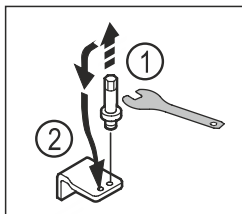

Fig. 18
- ▶ Unscrew the bolt of the lower swap bearing block with an Allen key AF5. Fig. 18 (1)
- ▶ Insert the bolt on the opposite side. Fig. 18 (2)